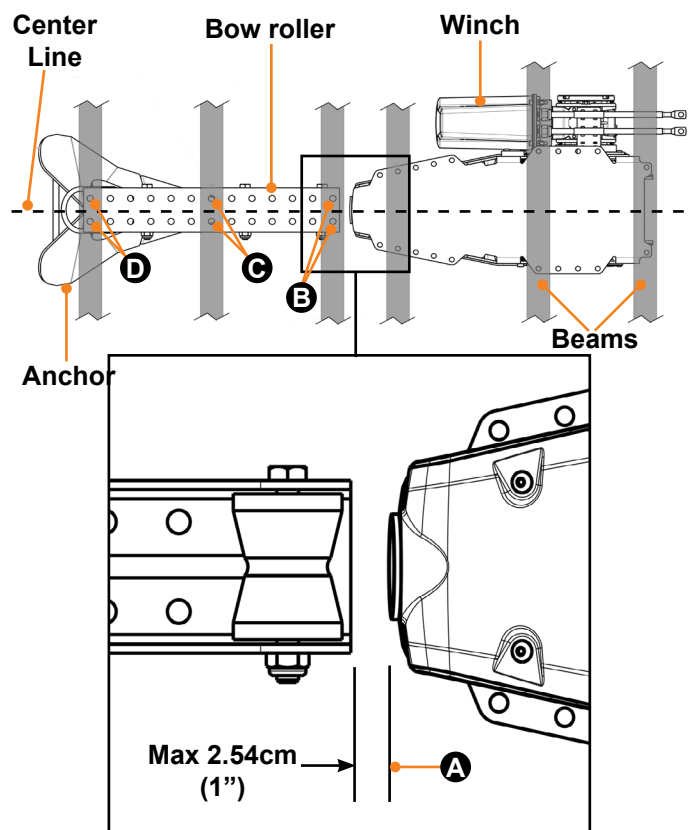

Fig.6
4. Dry fit the bow roller to the beams noting the marked location of the winch. The bow roller should be installed forward of the winch with the aft end of the bow roller spaced a maximum of 2.54cm (1") from the fore end of the winch (Fig. 6A). A larger gap will cause the chain and warp to become slack and snag. The aft most mounting holes (Fig. 6B) and fore most holes (Fig. 6D) on the bow roller must align with a beam (Fig. 6B). Optionally, for extra security a set of third holes can be aligned near the center of the bow roller where a beam is available (Fig. 6C). The winch and bow roller assemblies must be in line and parallel with each other. Make sure the center line of the anchor shank or bow roller aligns with the center line of the winch housing and bow roller (Fig. 6). If the beams do not line up with the pre-drilled mounting holes of the bow roller, the winch and bow roller can not be placed close enough together, or the assemblies can not be placed parallel and centered in relation to each other a mounting plate is required. Follow the instructions in the "Installing the Winch and Bow Roller to Decking or a Mounting Plate" section in this manual for guided installation.